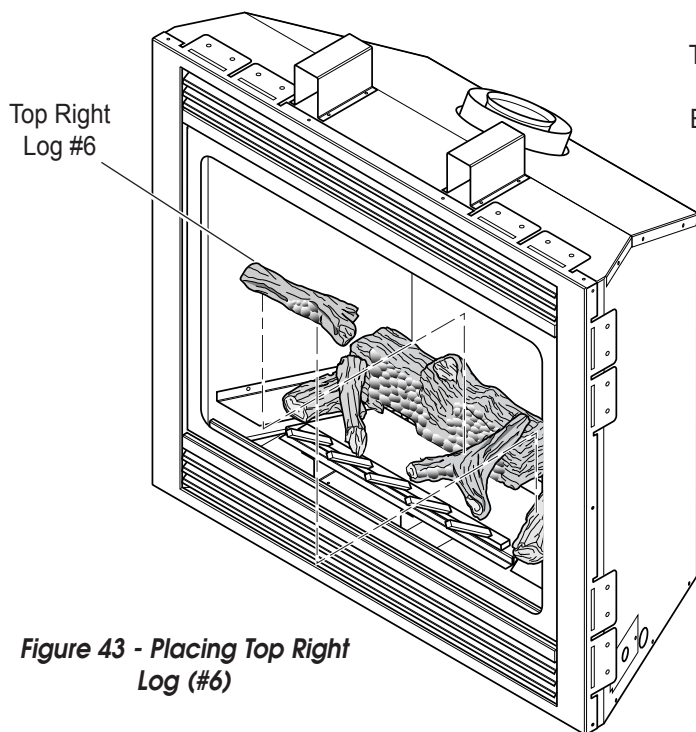

Figure 43 - Placing Top Right Log (#6)
6. Place top right log (#6) across bottom center log and right bottom log as shown in *Figure 43*.